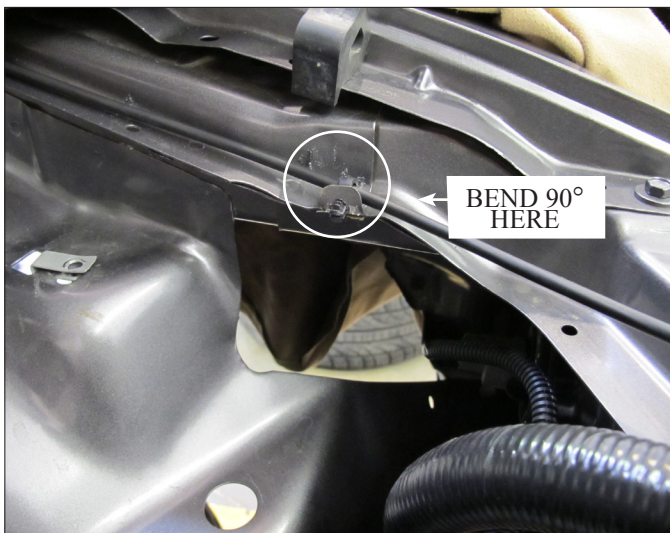

Fig. 12-i
- N. Install the 180° duct and the MAF sensor with filter to the inlet duct leading to the Supercharger. (See Fig. 12-j.) Clock the MAF exactly as shown in the Figure. MAF, keeping the wires away from hot or moving parts.